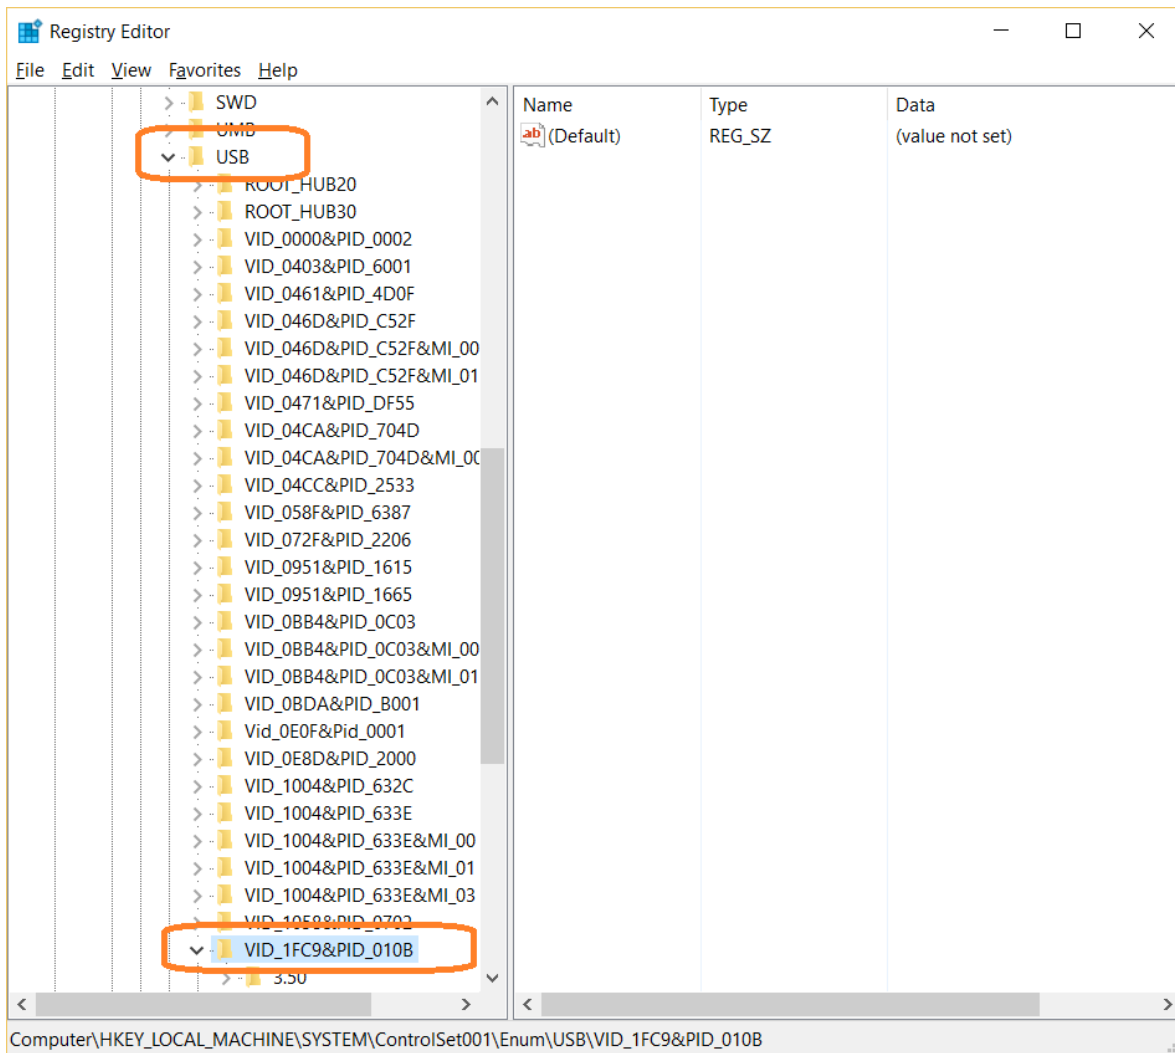

Figure 3
- > VID_1FC9&PID_010B (see *Figure 3*)